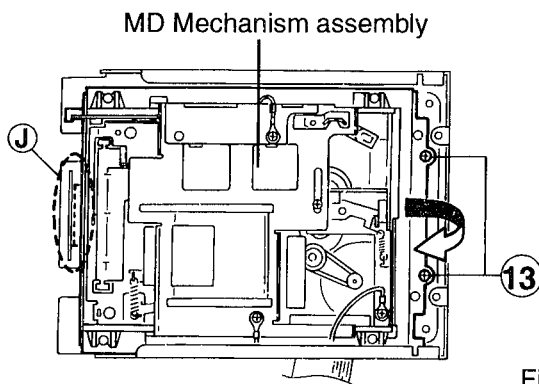

Fig. 14
2. Remove the two screws ⑬ retaining the MD Mechanism assembly.(See Fig. 14)